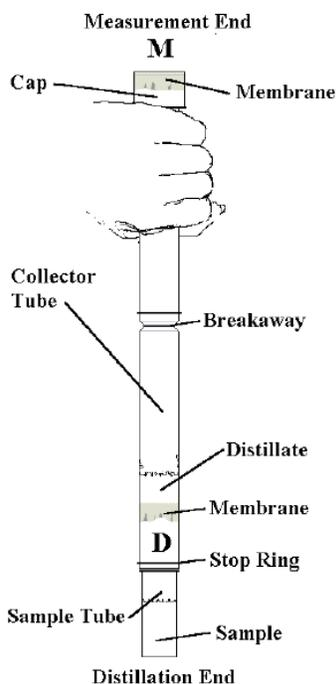

Figure 1: MICRO DIST collector tube
1) Using the User Filled cyanide tubes, fill the M (measuring) portion of the collector tube with 1.5 mL of 0.1 M NaOH for the trapping solution (Figure 1). Once the 0.1 M NaOH is added, take the loose membrane and press the cap over to seal in the trapping solution.